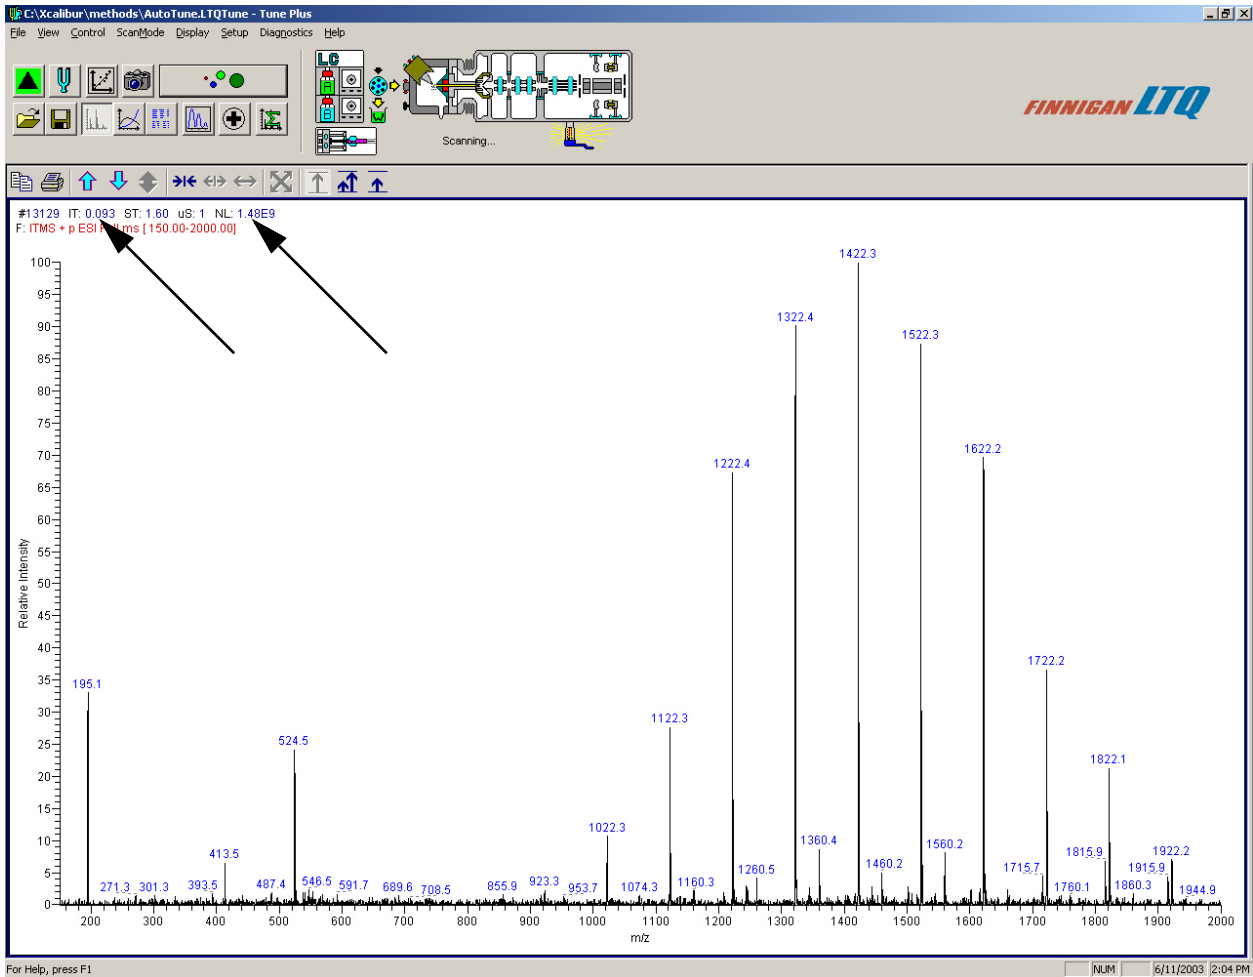

Figure 3-7. Spectrum view of the Tune Plus window, showing ionization time (IT) and normalization level (NL) of calibration solution
- a. In the Spectrum view of the Tune Plus window, observe the mass spectra of the singly-charged ions of calibration solution. The ions are as follows. See Figure 3-7.
- b. At the top of the Spectrum view, notice the values for the ionization time (IT) and normalization level (NL). See Figure 3-7.